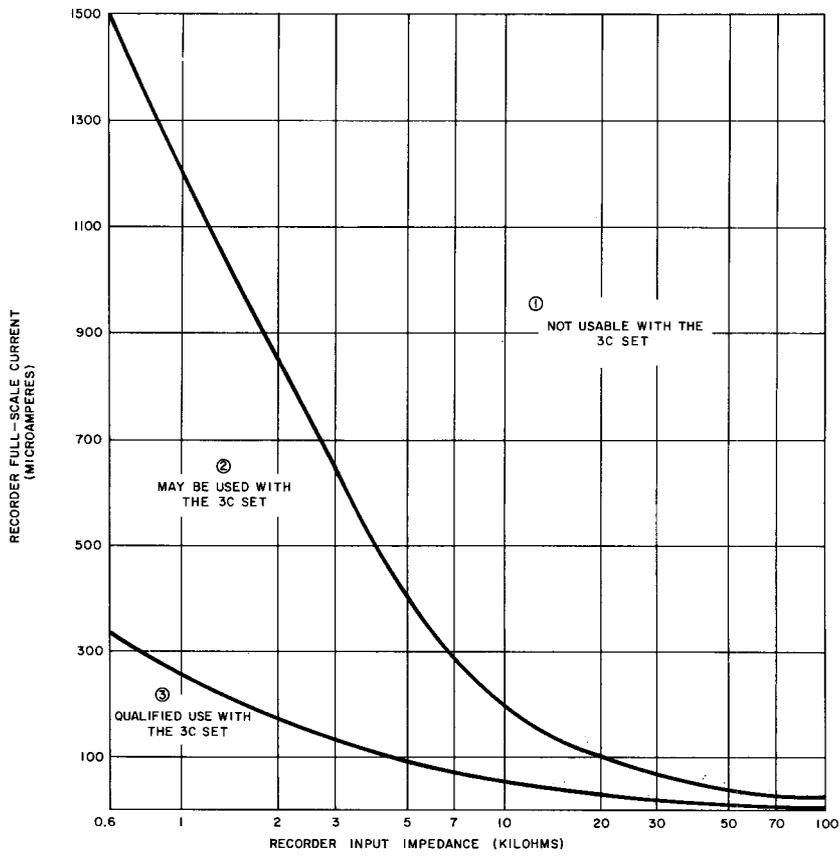
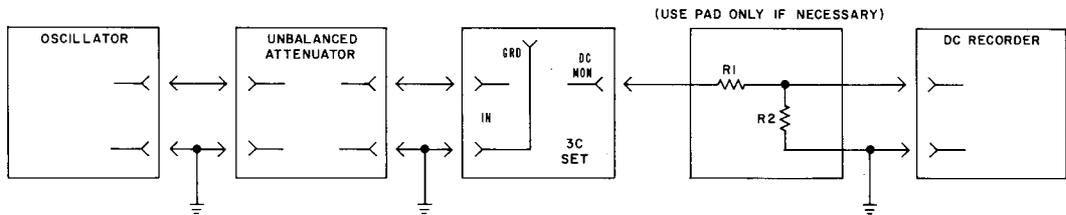

Fig. 13—Use of Recorder With 3C Noise Measuring Set
Fig. 14—Calibration Circuit For DC Recorder
9.09 The 3C NM set may be used to drive many different types of DC recorders. Figure 13 has been prepared to assist in determining the types which may be used.
determined on Fig. 13 which will fall within one of the areas. For instance, suppose the recorder that is available has an input impedance of 3000 ohms and a full-scale current of 500 microamperes. The point determined by these two numbers falls in region 2, which indicates that this recorder may be used with the 3C set (see Fig. 13). If the point had fallen in region 1, the set would not be able to drive the recorder to full scale. If the point had fallen in region 3, a suitable pad could be designed which would make the recorder usable. For example, suppose the recorder has an input impedance of 10,000 ohms and a full-scale sensitivity of 20 microamperes. If R2 (Fig. 14) is chosen to be 500 ohms, the apparent input impedance is essentially 500 ohms and the full-scale sensitivity is decreased by a factor of 21 ($10,500/500$), making the full-scale current 420 microamperes. Then choose R1 to be approximately 3500 ohms; in this case, the combination looks like a recorder with a 4000-ohm input impedance and a 420-microampere sensitivity which now falls in region 2 of Fig. 13.
9.11 To calibrate the recorder, use the equipment setup shown in Fig. 14. (Do not disturb any necessary pad arrangement.) Make no connection to the DC MON jack. Follow the procedure outlined below.